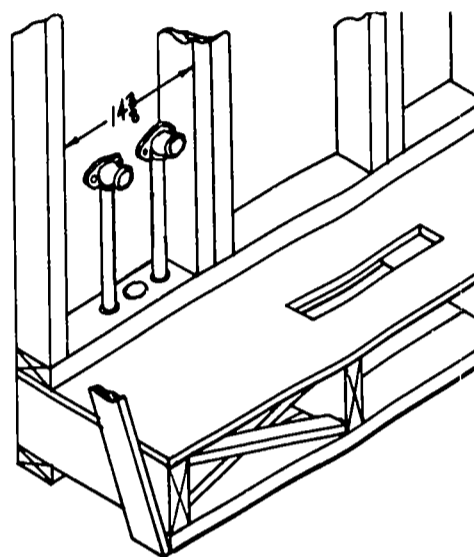

Fig. 51-9. Measuring for Backing Board (5" nipples are removed.)
2. Measure the distance between the wall studs as shown in Fig. 51-9. Cut a piece of 1" x 6" board to that length.